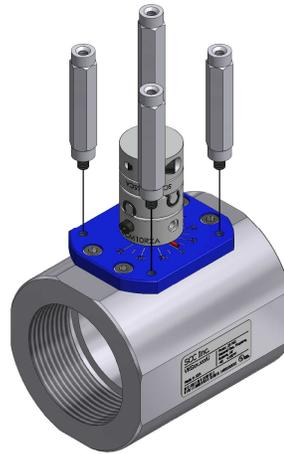

Figure 3: Standoff Installation
2. Place a small amount of red Loctite on the end of each of the (4) M6 x 22mm socket set screws. Using a 3mm hex key, fasten each socket set screw into one end of a hex standoff until the screw bottoms out. By hand, thread each standoff into one of the four M6 threaded holes on the top of the blue dial of the VKG... valve as shown in Figure 3. Using the ½" open end wrench (or crescent wrench), tighten each standoff against the dial.